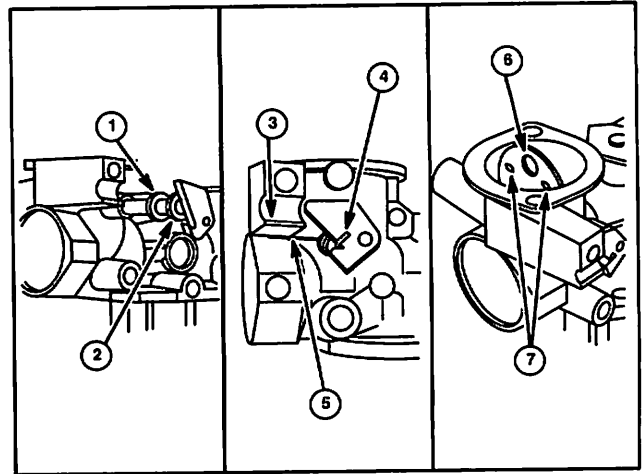

Fig. 86
1. Place metal washer (2) next to choke lever and then foam washer (1).
2. Insert shaft assembly in carburetor body with stop against remote control boss (3).
3. Insert choke plate in shaft with hole up (6) and indentations towards large welch plug (7), Fig. 86.
NOTE: On Choke-A-Matic® carburetors, be sure that both ends of choke spring are engaged before sliding shaft all the way into carburetor. Lever end (4), body end (5), Fig. 86.